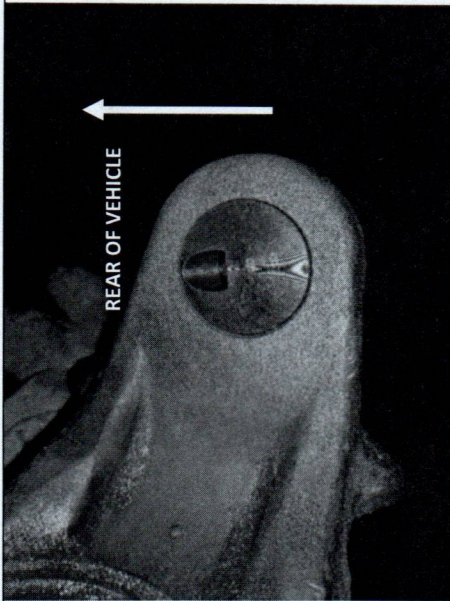

Figure 10. Lower Ball Joint Orientation
12. Orient the Synergy lower ball joints - Depending on the wheel offset, axle trusses and gussets, axle shaft size and other factors, the orientation of the zerk will need to be decided by the installer. We recommend orienting the zerk fitting so that it is pointing towards the rear of the vehicle, slightly toward center. See Figure 10.